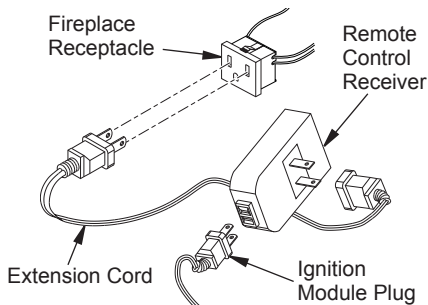

Figure 40 - Installing the WRC Remote Receiver
2. The WRC model receiver does not require a battery. Receiver can be installed by first plugging short extension cord into fireplace receptacle. Plug receiver unit into extension cord. Plug ignition module plug into receiver unit (see Figure 40).